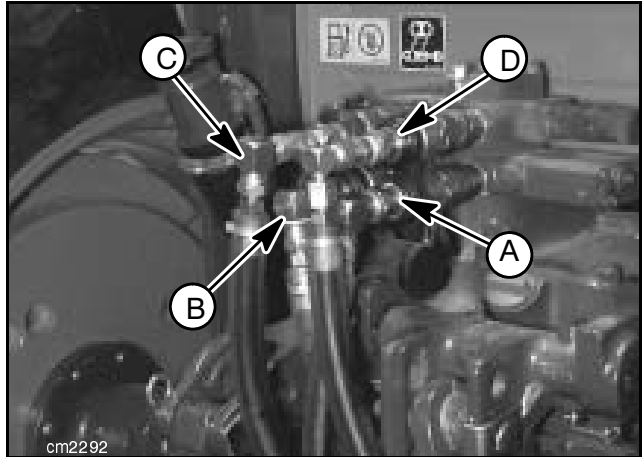

Figure 14 Hose Connections to Tractor Hydraulic Couplers
1. Connect hydraulic hoses to tractor hydraulic couplers as shown in Figure 14.